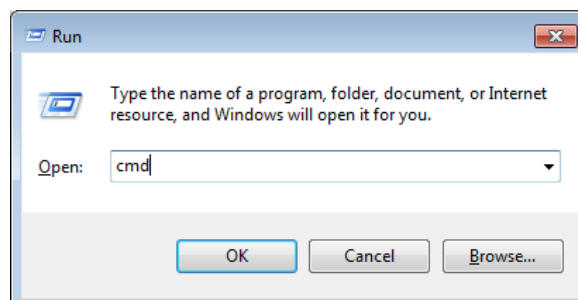

Figure 4.27. Running cmd.exe
3. Invoke Command Prompt window. Press “Win + R” to start “cmd.exe” (Figure 4.27).